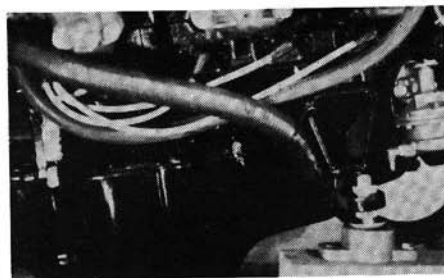

Figure 18
- a. With engine running, open petcock on the side of the block and apply flushing water to the engine (See Figure 18).